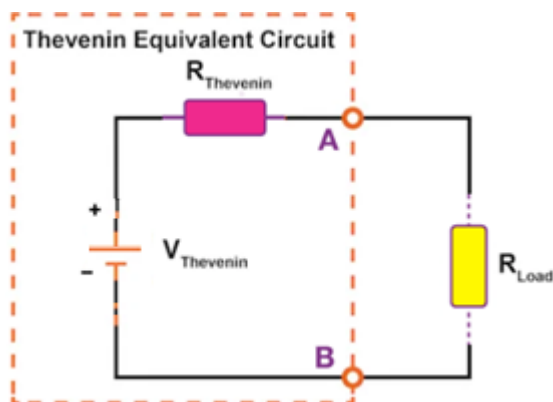

Figure 5:
under "Method 2" Record the load voltage in Table 2 until it is half of the open circuit voltage measured in step five. As shown in Figure 5, the load and Thévenin resistance form a simple series loop at this point. This implies that they both "see" the
Consider the Thévenin equivalent of Figure 5 using the theoretical ETH and RTH from Table 3 along with  $4\text{ k}\Omega$  for the load (RL). Calculate the load voltage and record it in Table 3. Repeat the process for a  $10\text{ k}\Omega$  load.
Create the circuit shown in Figure 5 by utilizing the observed ETH and RTH from Table 3, as well as  $4\text{ k}\Omega$  for the load (RL). Calculate the load voltage and enter it into Table 4. Determine and note the deviation as well.